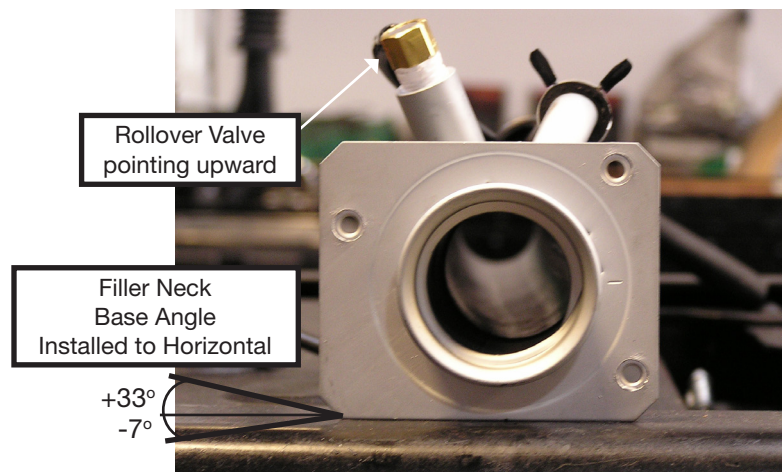

Figure 13.30.2
The fuel filler neck (5) must be installed with the proper orientation on the body. The neck should be installed with the roll-over valve pointing upward, with the bottom edge of the neck oriented parallel to the ground, plus 33 to minus 7 degrees. See **Figure 13.30.2** for the proper orientation.